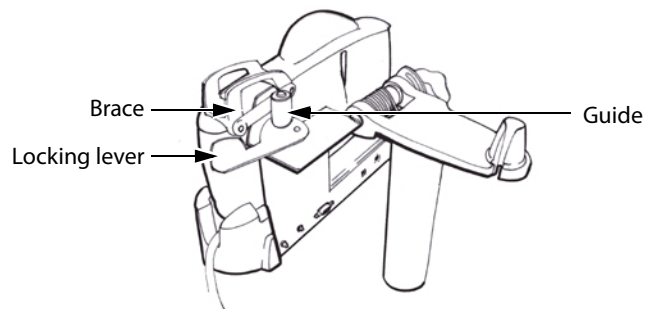

Figure 3 Back of Stand
- 1 Insert the system into the stand sleeve, sliding the system brace over the black guide. See Figure 3.